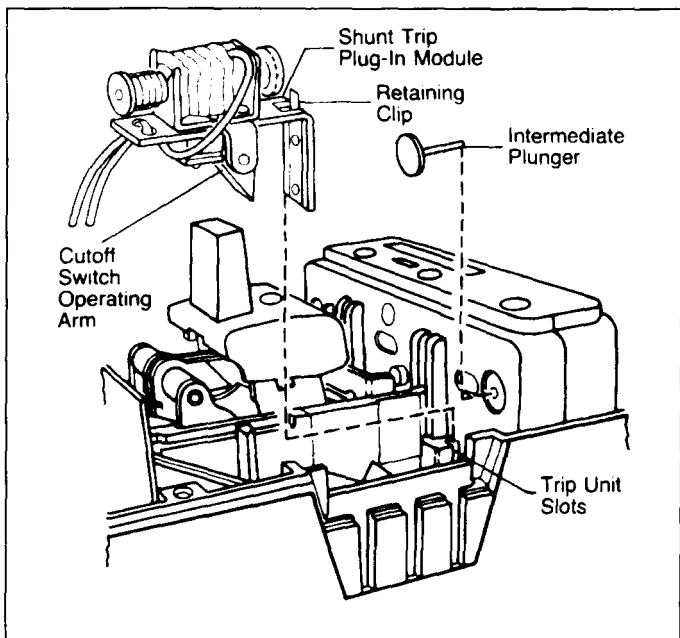

Fig. 2-4. Installing Intermediate Plunger and Shunt Trip
- Position intermediate plunger in trip unit. (See Fig. 2-4.)
- Slide shunt trip plug-in module into trip unit slots until spring-loaded retaining pin snaps into clip recess. Cutoff switch operating arm must be between the accessory operating projection on the molded cross-bar and the trip unit (Fig. 2-4.). For terminal block assemblies, slide terminal block into mounting slot on side of base as plug-in module is being positioned.